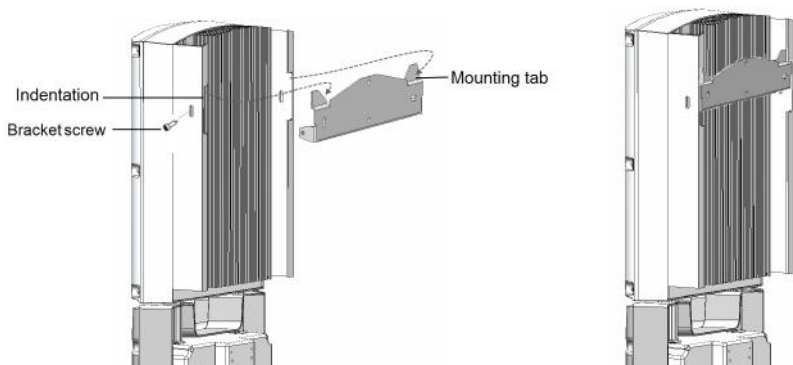

Figure 8: Hanging the inverter on the bracket
- Ensure that the flat side of the bracket is at the bottom, as in *Figure 8*.
4. Hang the inverter on the bracket (see *Figure 8*): Lift the inverter from the sides, or hold it at the top and bottom of the inverter to lift the unit into place. Do not lift holding the StorEdge Connection Unit as it may be damaged
6. Insert the two supplied screws through the outer heat sink fin on both sides of the inverter and into the bracket (see *Figure 8*). Tighten the screws with a torque of $4.0 \text{ N}\cdot\text{m}$ / $2.9 \text{ lb}\cdot\text{ft}$.